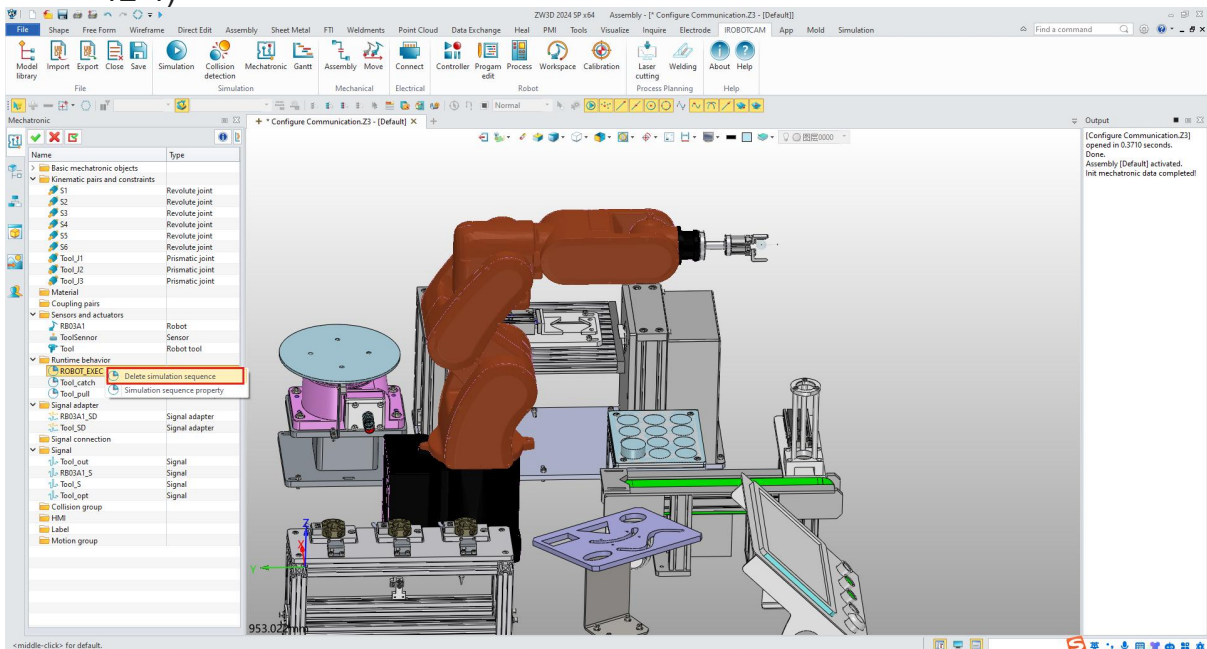

Figure 12-4: Delete the simulation sequence
- Right-click on "Robot_EXEC" and delete the simulation sequence. (Figure 12-4)